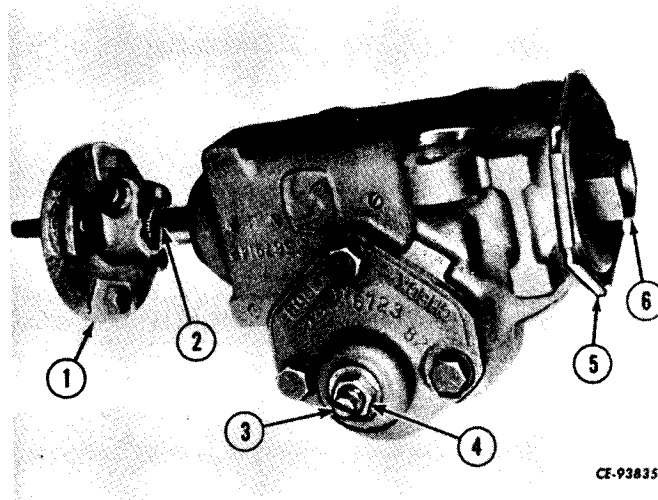

Figure 8-2
Scribe a mark (2, Fig. 8-2) on the shaft in line with the reference indicator on the flange (1) to insure the proper positioning of parts during assembly.
Place the lower ball bearing in the adjuster and secure with the retainer. Thread the adjuster (6, Fig. 8-2) into the housing until snug. Be sure the bearing is seated on the end of the shaft. Install the nut (5) but do not tighten.